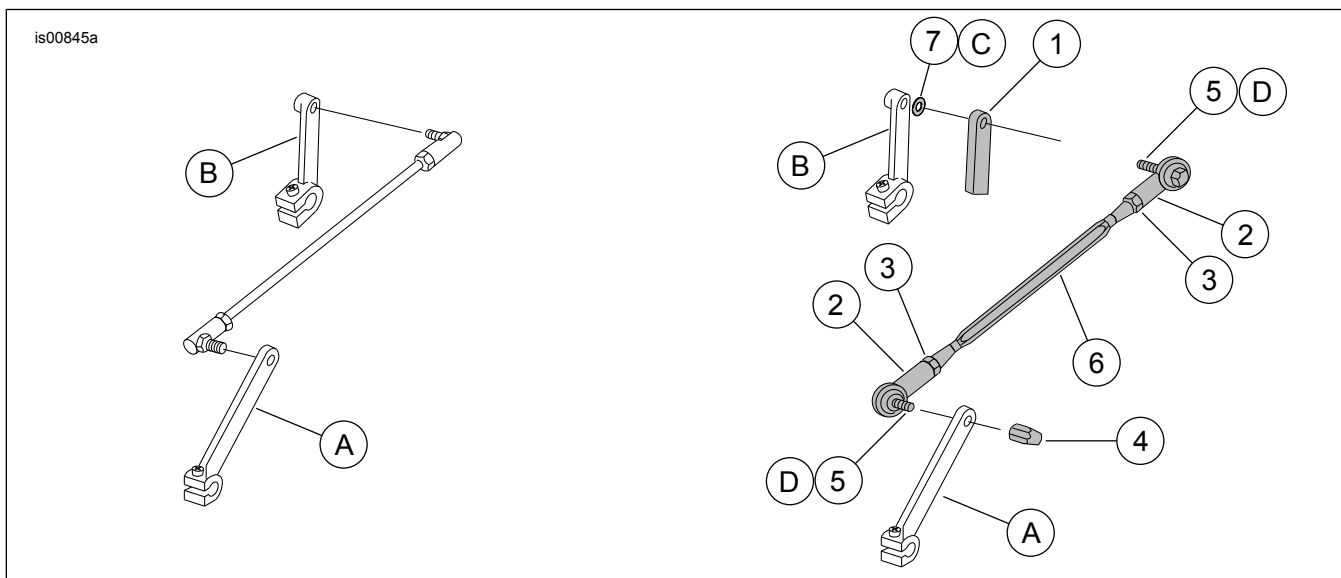

Figure 1. Service Parts: Shifter Linkage
See Figure 1 for a list of kit contents.
All numbers referenced in steps that follow refer to Figure 1 and Table 4.
5. **On 1999 and later FLHT, FLHR, and FXDWG models,** place the rod end on the outside of the shifter lever, then apply threadlocker to the threads of the other cap screw (5), and attach the front of the shifter rod (6) to the shifter lever with the screw (5) and acorn nut (4) in the order shown in Figure 1 (acorn nut facing out). Secure acorn nut (4). Tighten.
Note	Items included in kits are shown shaded in Figure 1.